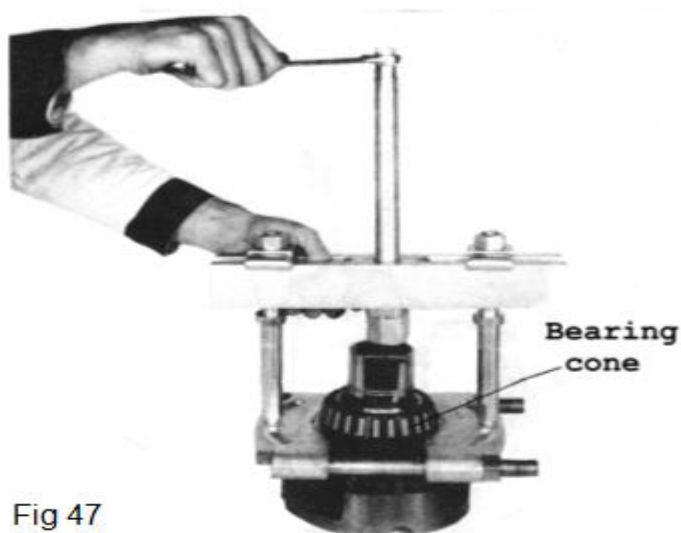

Fig 47
- * Remove the differential bearing cones (Fig. 47).